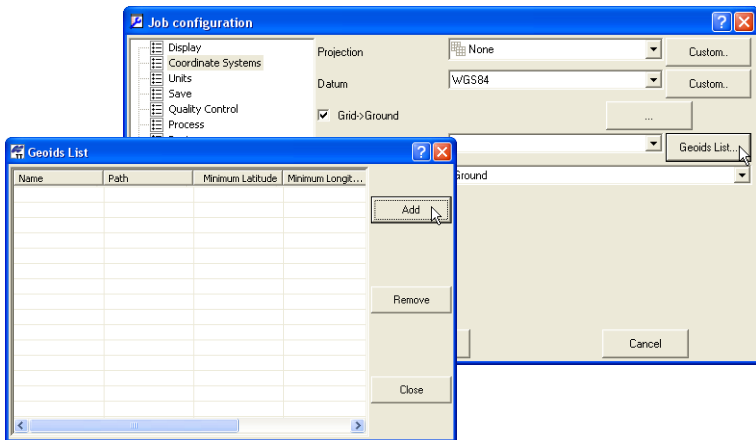

Figure 2-25. Add Geoids List
1. Click the **Geoids List** button to import a geoid model to Topcon Tools. Click **Add** to open a geoid (Figure 2-25).